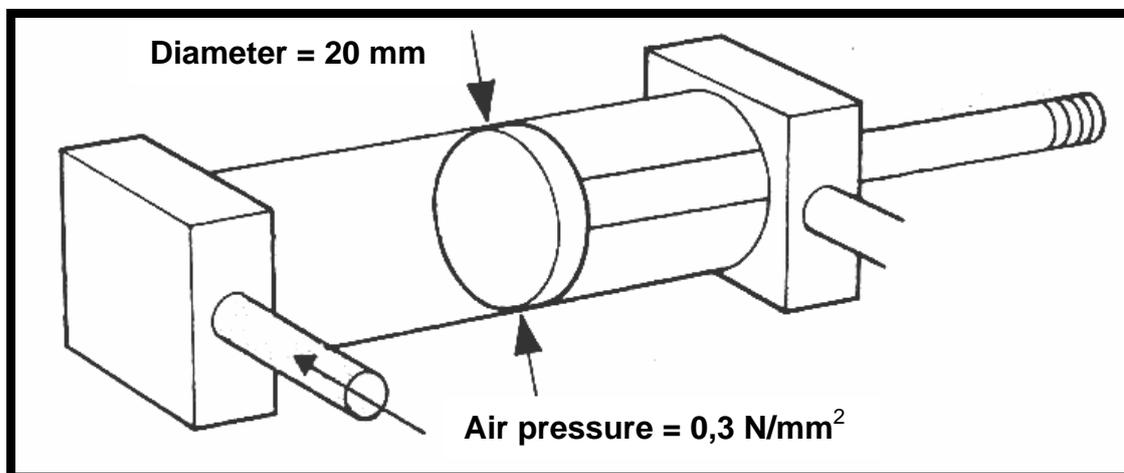

FIGURE 1.5
1.17 What is the magnitude of the force produced by the piston shown in FIGURE 1.5 if the air pressure is 0,3 N/mm2? (Hint: 1 N/mm2 = 1 MPa)